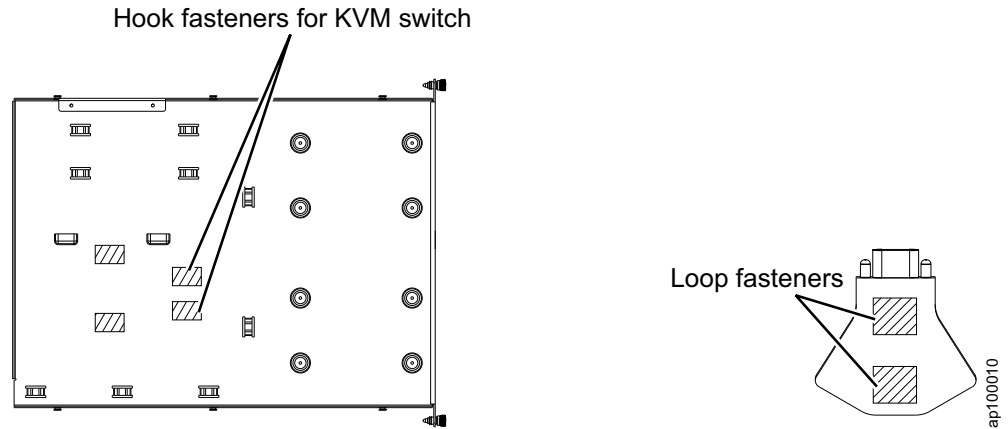

Figure 9. KVM switch (bottom view) and location in the IBM Storage Appliance 2421 Model AP1 tray
10. Place the two new loop fastener tapes on the hook fasteners in the tray (see Figure 9 on page 29) and remove the protective backing from the adhesive.